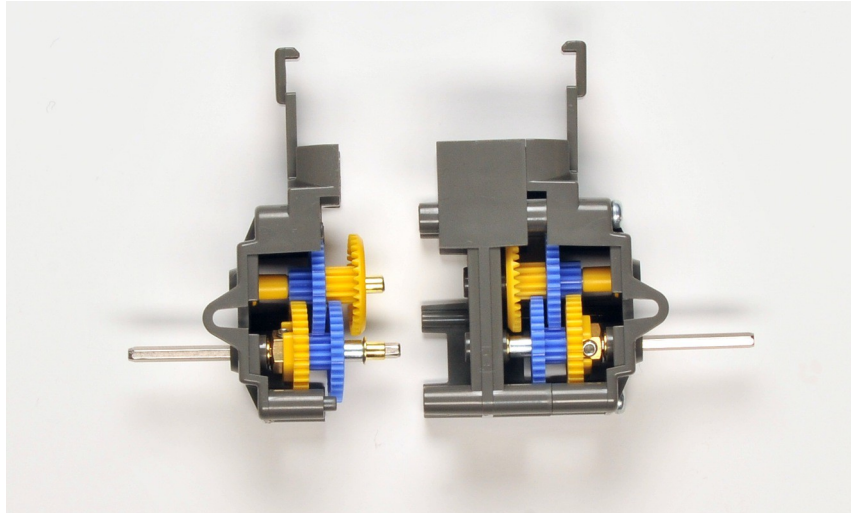

Figure 1.23
20. Repeat steps 2-18 for the left side of the housing. The completed left side of the gear assembly is shown in figure 1.23